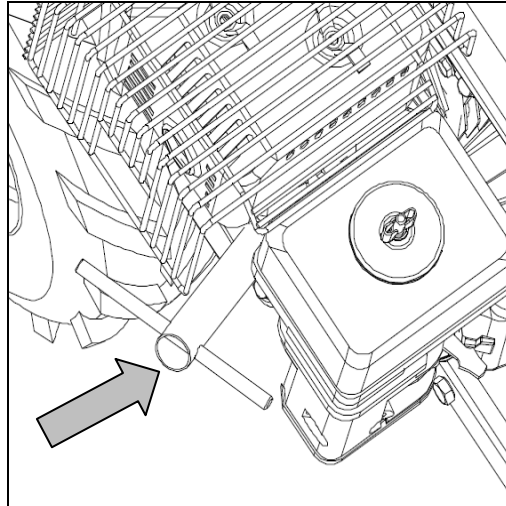

Fig.30
2. Use a spark plug wrench (not supplied) to loosen and remove the spark plug (Fig. 30).